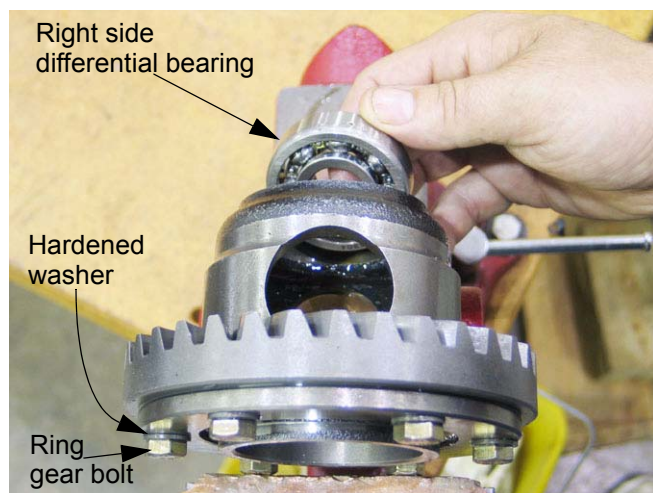

Figure 9.28
9.28. The second 16 tooth miter gear can be removed, along with the second differential bearing (right side), after the 10 tooth miter gears are out. See Figure 9.28.